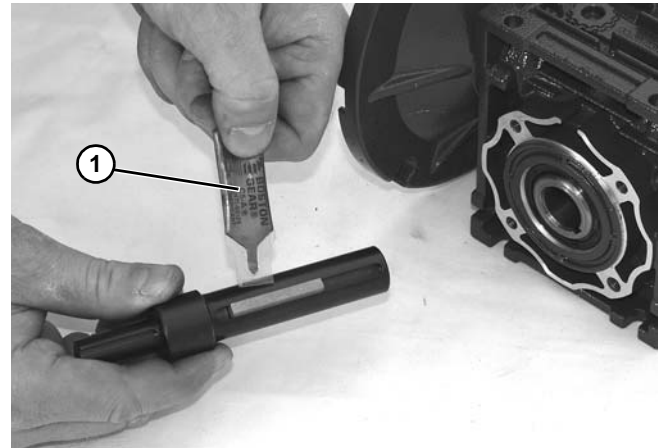

Figure 33
5. Apply anti-seize (Figure 33, item 1) to shaft.